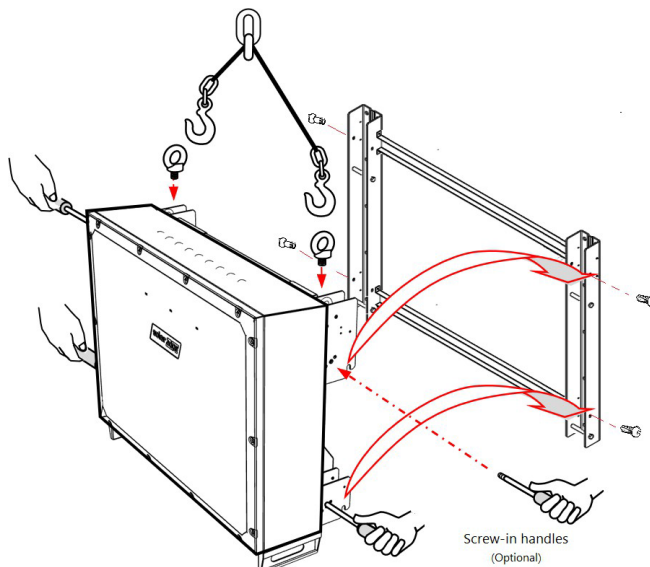

Figure 26 Mounting the inverter before wiring is laid down
1. If optional screw-in handles are used, anchor the screw-in handle to any point at the inverter (see Figure 26).